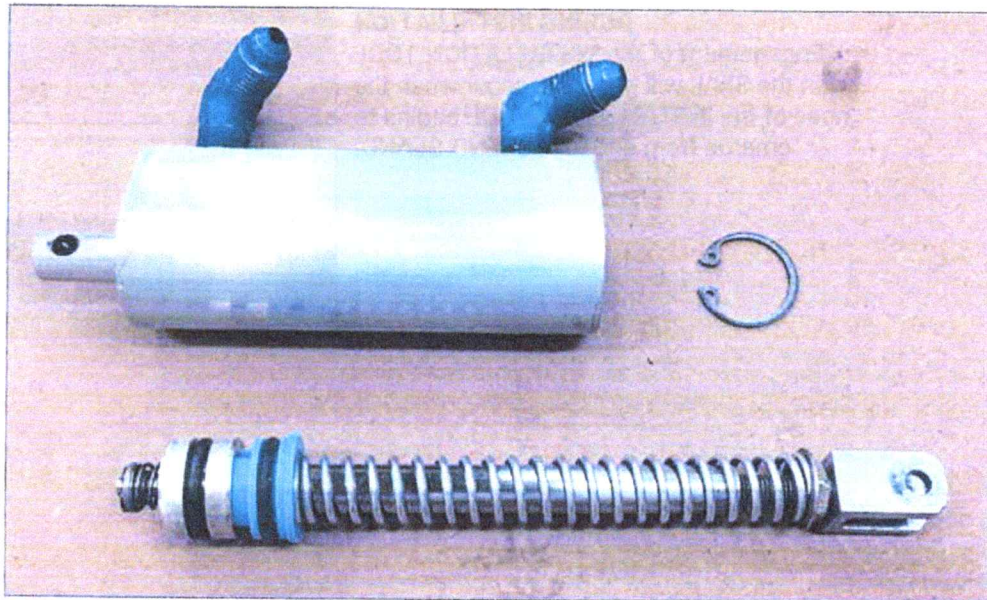

FIGURE 7 – REASSEMBLED BRAKE MASTER CYLINDER COMPONENTS READY FOR FINAL ASSEMBLY.
- d) Reinstall return spring, metal washers, jam nut and clevis and prepare brake master cylinder for re-assembly, as shown below in Figure 7